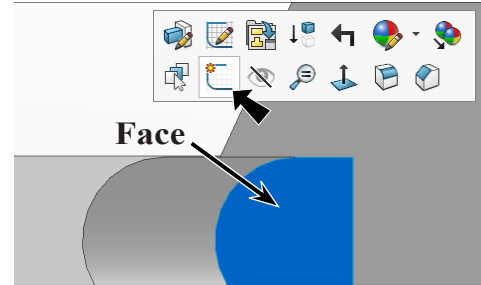

Fig. 50
Step 1. Click the **inside face of hinge** and click **Sketch** on the context toolbar, **Fig. 50**.